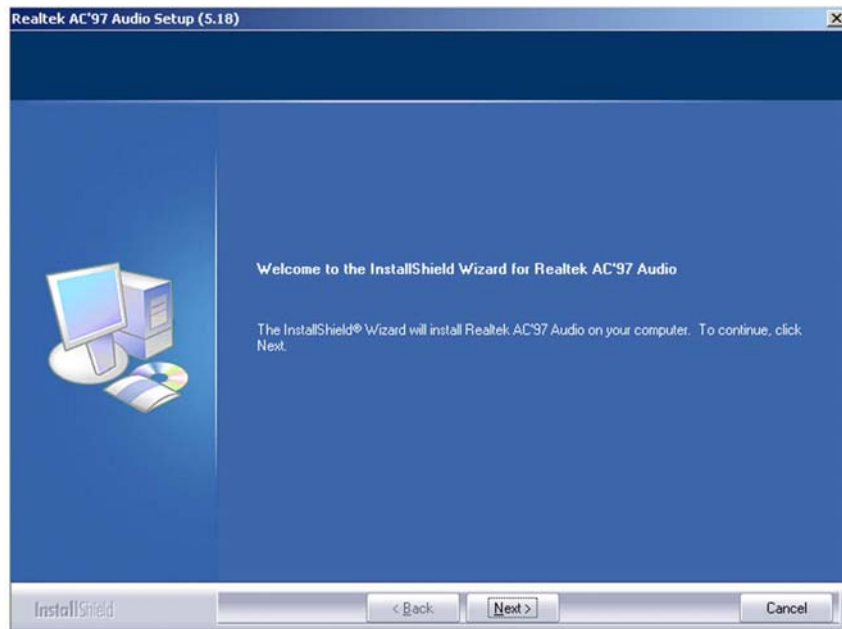
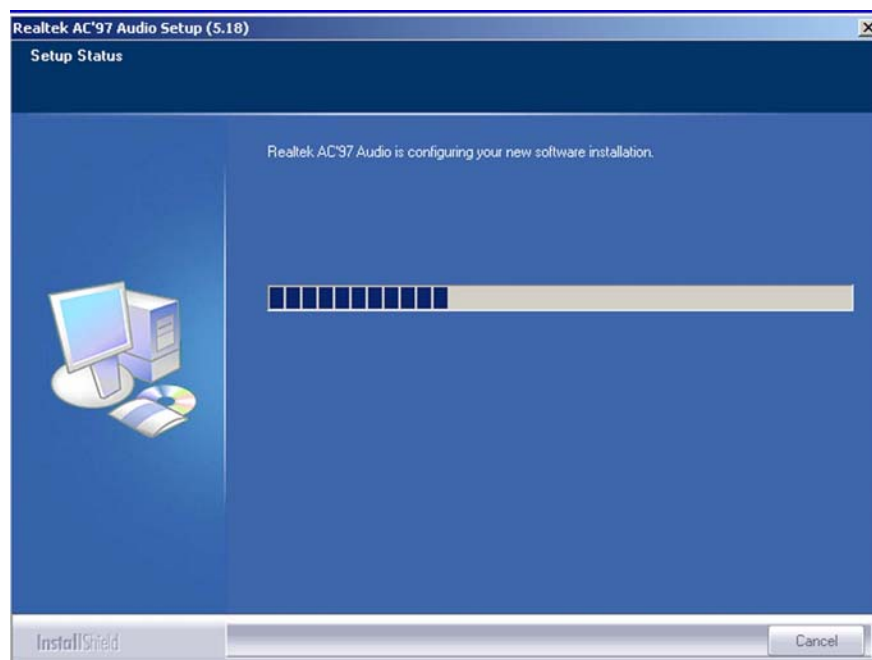

Figure 7-26: AC'97 Audio Driver Welcome Screen
Figure 7-27: AC`97 Audio Driver Software Configuration
Step 6: After the install shield is prepared, the welcome screen shown in **Figure 7-26** appears. To continue the installation process, click the “**NEXT**” button. The install shield starts to configure the new software as shown in **Figure 7-27**.